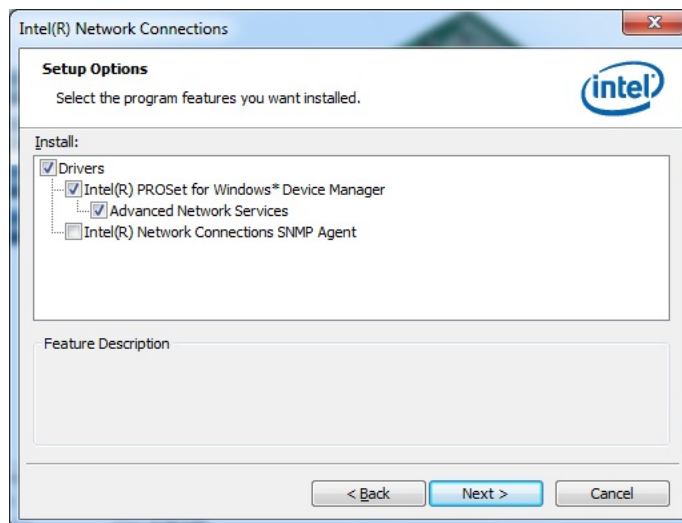

Figure 6-11: LAN Driver Setup Options
Step 12: The **Setup Options** screen in **Figure 6-11** appears.